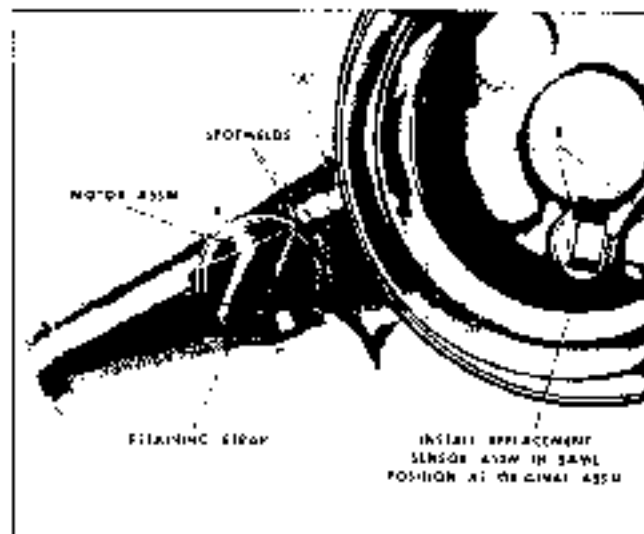

Fig. 6D-1 Thermo-AC Motor and Sensor
- a. Drill a 7/64" hole in snorkel tube at point A as shown in Fig. 6D-1.
2. Support sensor at position B as shown in Fig. 6D-1 and press clip on sensor being careful not to install sensor.